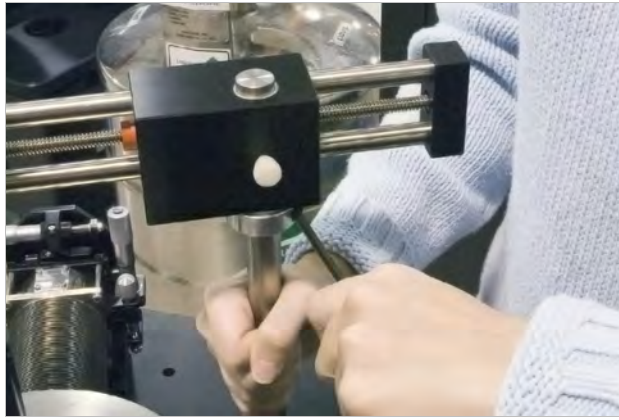

FIGURE 6-8 Microscope focus adjustments
3. While supporting the microscope with one hand to prevent it from falling, use the $\frac{3}{16}$ in hex driver to loosen the shaft collar (section FIGURE 6-8).